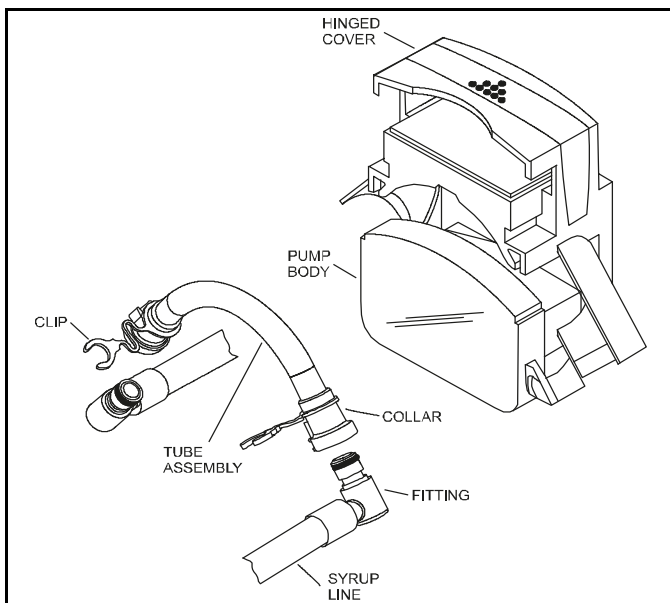

Figure 6-78
14. Grasp the pump tube by both ends and remove it from the pump body. (See Figure 6-78.